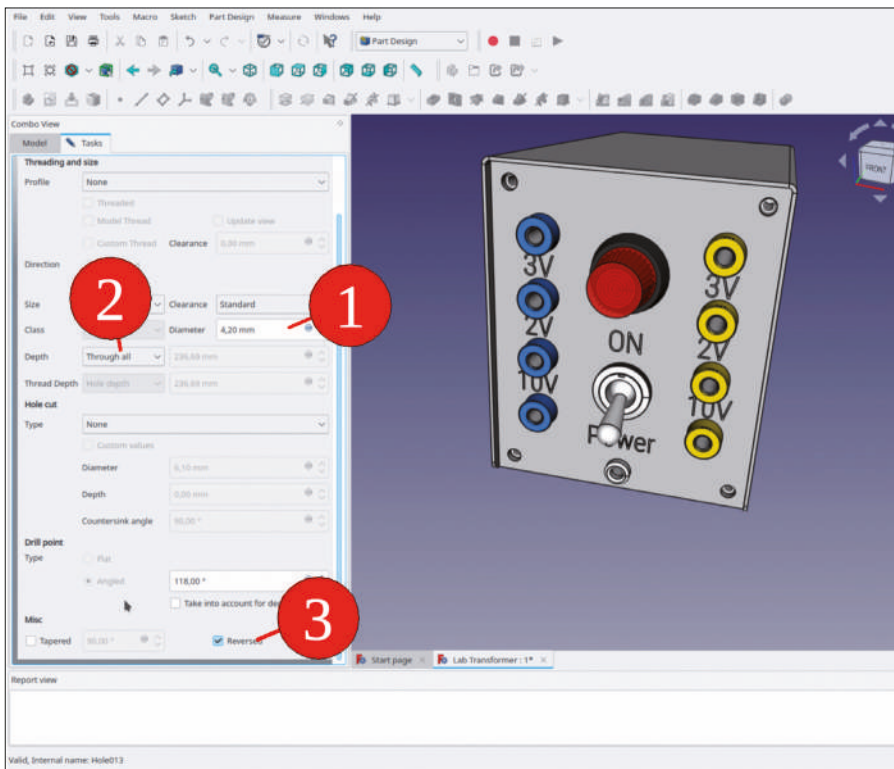

Figure 9-160
27. In the task window, set the diameter to 4.2 mm, select 'Through all' for the depth and check the 'Reversed' checkbox (Figure 9-160).